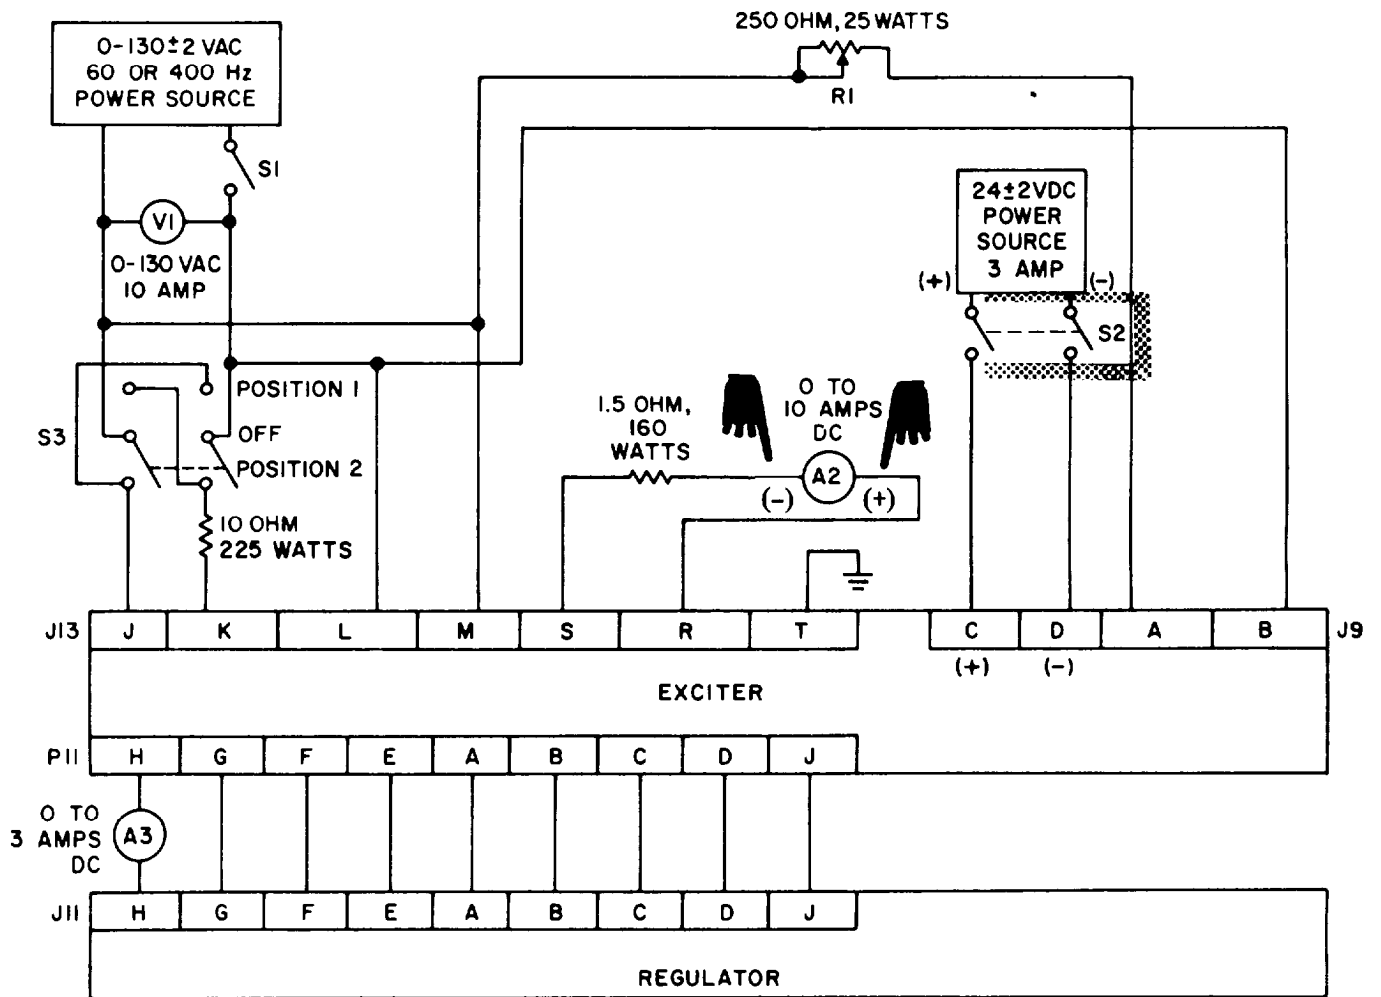

Figure 6-16. Exciter regulator (A10, A11) test setup
a. Connect the exciter-regulator to test equipment as illustrated in figure 6-16 and perform test specified in procedural analysis table 6-7.